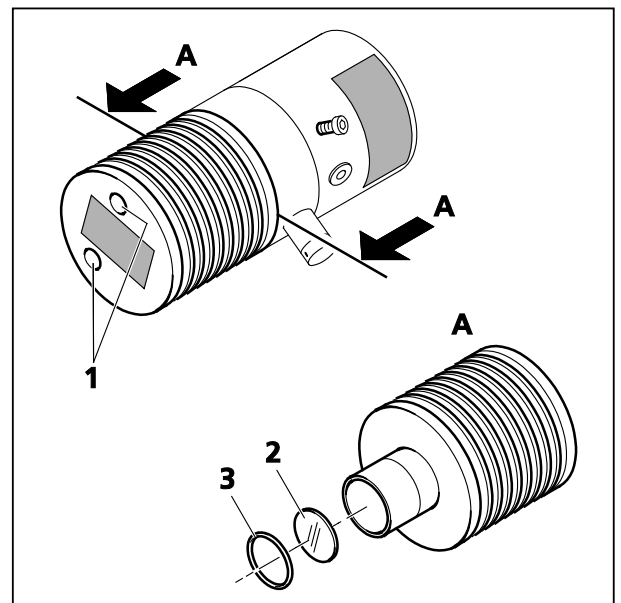

Fig. 6 Inserting the neutral-density filter
- Loosen the two screws (Fig. 6/1) on the VIS-LED housing.
- Remove the O-ring (Fig. 6/3) located in front of the diffusing glass.
- Insert the 12 % neutral-density filter (Fig. 6/2) in front of the diffusing glass.
- Insert the O-ring (Fig. 6/3).